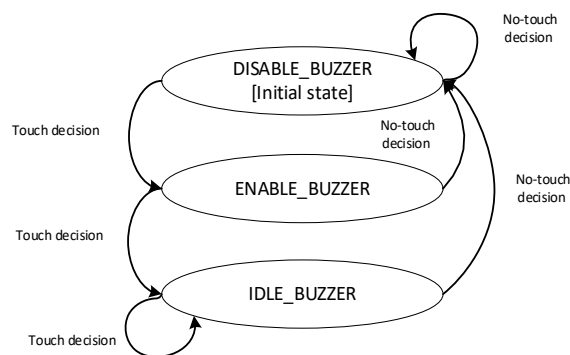

Figure 3-6 Buzzer state transition diagram
1. Controls the sounding status of the buzzer. Figure 3-6 shows the state transition diagram of the buzzer state.